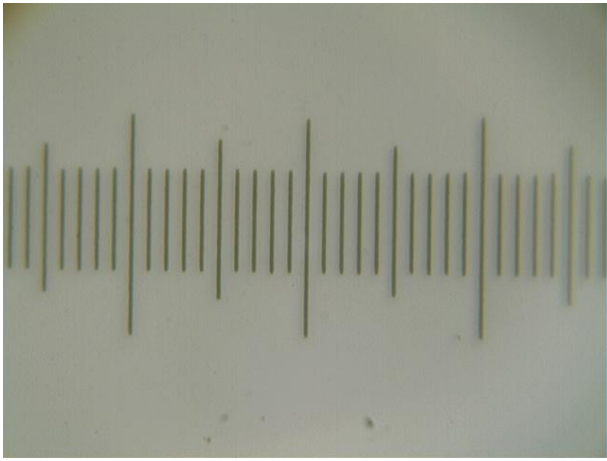

Fig.1 Image captured from the DirectShow Capture Window
Fig.1 shows the video window image, it's actually a micro ruler. You can try to extract the dark lines as the mark and overlay it with video in DirecShow Capture Window:
1. Click  to capture the image as shown in Fig.1.